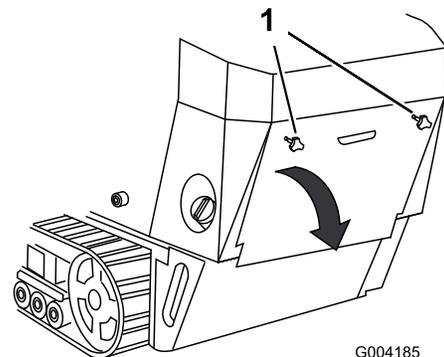

Figure 27
1. Unscrew the 2 hand knobs securing the rear-access cover to the machine (Figure 27).
2. Tilt the rear-access cover down and remove to access the internal components (Figure 27).